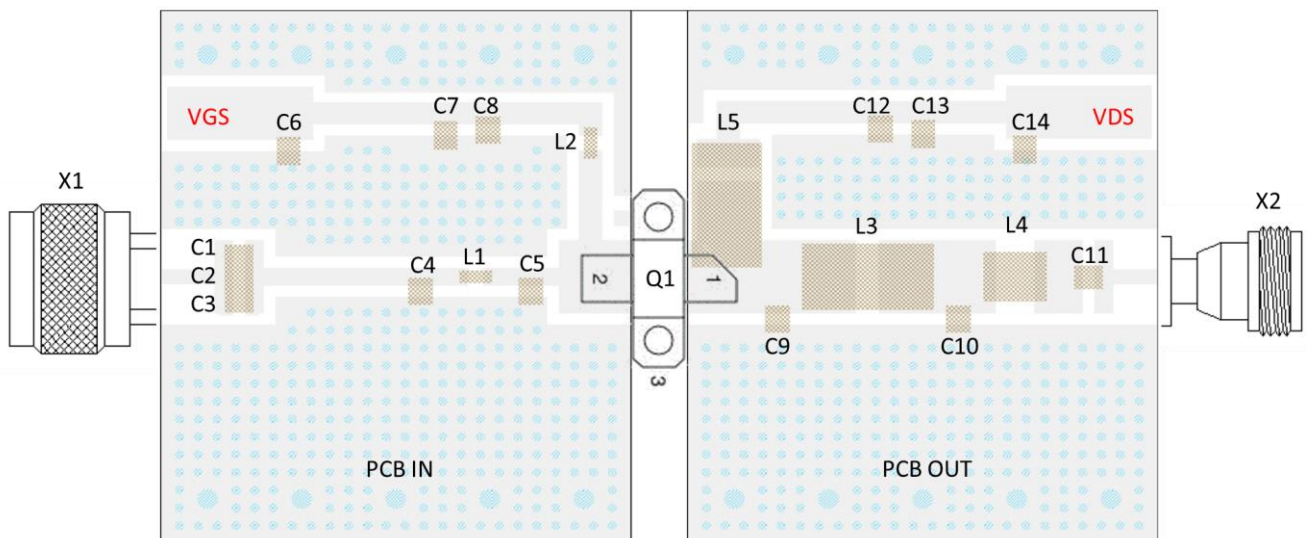

Figure 12 Component mapping
- Figure 12 Component mapping 10
Figure 12 presents an infrared (IR) thermal image of the demo board after it has reached a state of thermal equilibrium in a no-cooling environment. The highest recorded temperature on the device under these conditions is $T_{case} = 58^{\circ}C$, the ambient temperature $T_{ambient} = 25^{\circ}C$